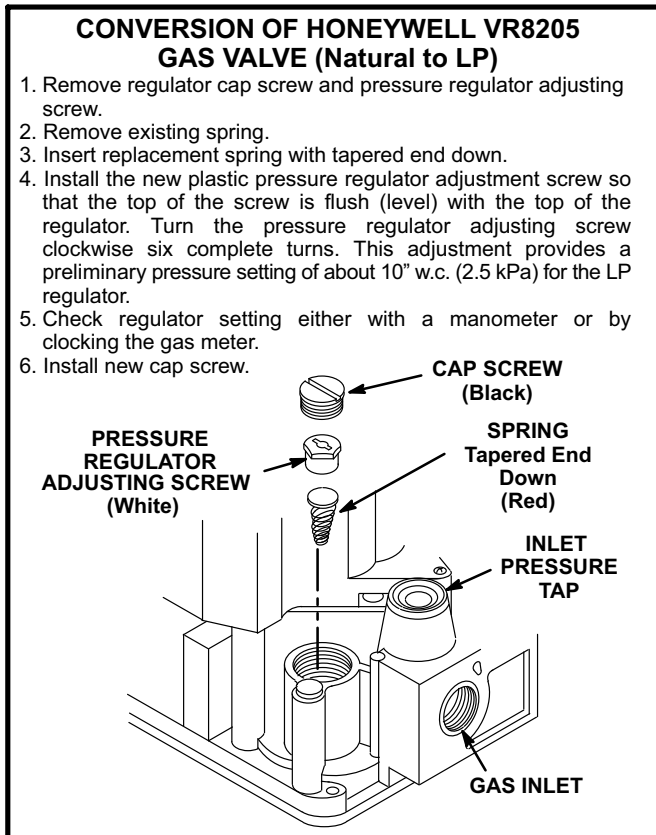

FIGURE 2
- 5- Install gas valve conversion kit. Refer to manufacturer's instruction packed in valve conversion kit. See figures 2, 3, or 4.
- Remove cap screw from inlet pressure tap on gas valve. Apply pipe thread compound to threads of the 1/8" BIP nipple and screw the pressure switch/BIP nipple assembly into the inlet pressure tap on the gas valve. See figures 2 and 3 for gas valve inlet pressure
- 2 - After gas line pressure has been checked and adjusted, check manifold pressure at the pressure tap on the outlet side of the gas valve. The correct manifold pressure for LP/propane gas is given in table 1. Refer to figures 2, 3, or 4 for gas manifold pressure adjustment screw location.